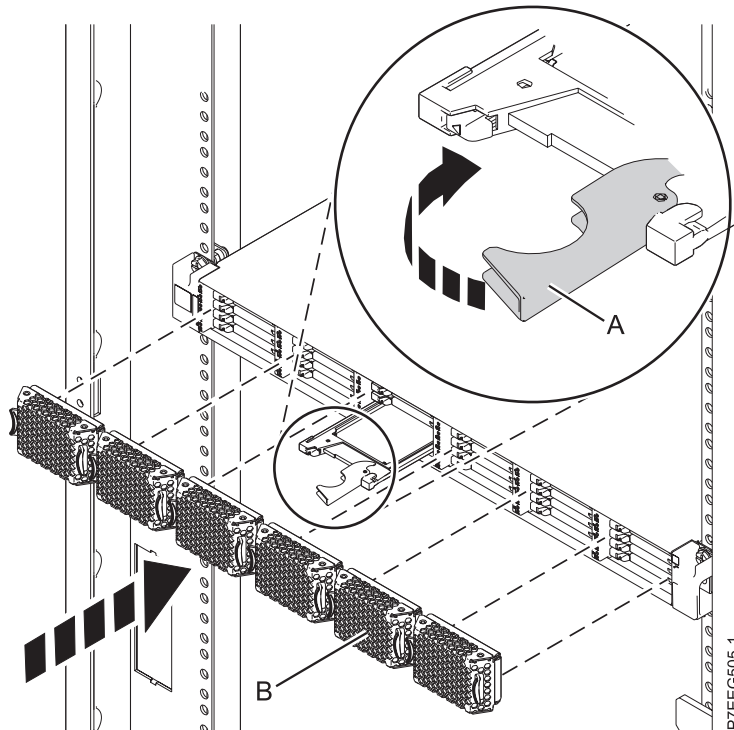

Figure 10. Installing a solid-state drive in the 58/88 PCIe storage enclosure
1. With the handle in the unlocked position, align the solid-state drive with the guide rails in the enclosure. See Figure 10,
3. Rotate the handle (A) to the locked position, as shown in Figure 10.
4. Install the bezel (B).